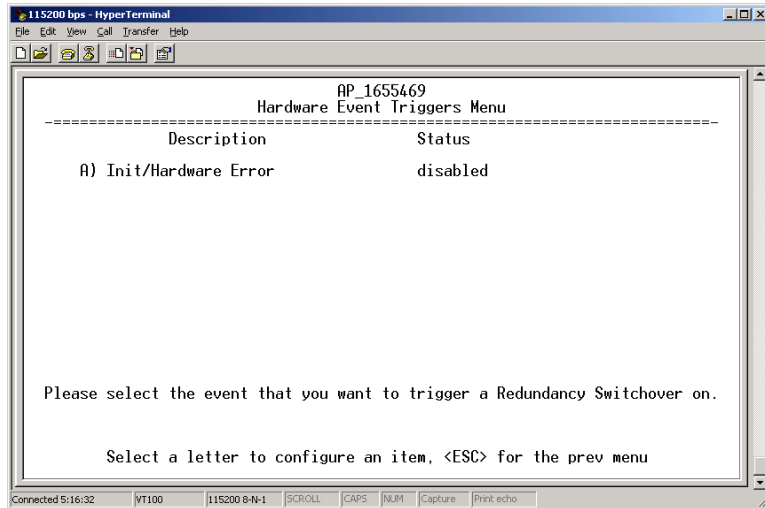

Figure 3-63. Hardware Event Triggers
- ⌘ **Hardware Event Triggers** This selection opens a submenu (Figure 3-63 on Page 96) where you can set/view the trigger status for initialization/hardware errors.